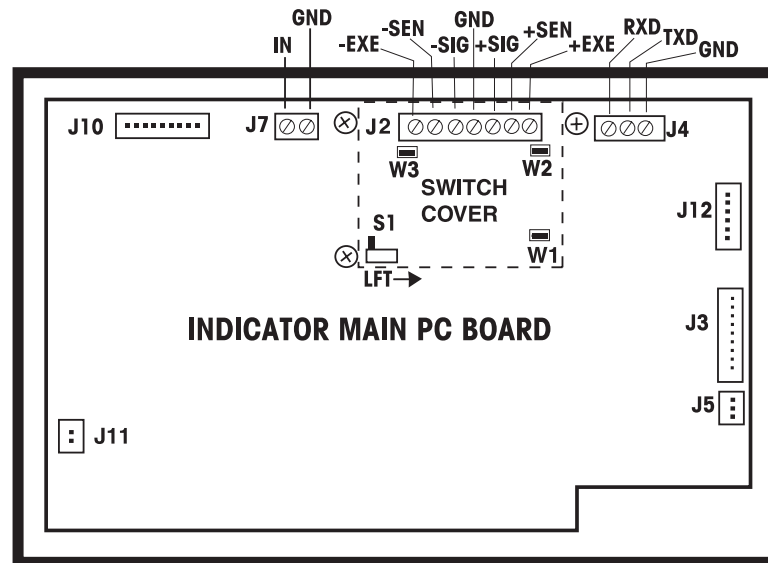

Figure 3-13. Main Printed Circuit Board Connections.
3. See Figure 3-13 Printed Circuit Board Connections and remove the switch cover. Retain the screws and cover.
4. Remove the 3 screws securing the switch cover over Terminal Strip J2. Refer to the manufacture's wiring code of the load cell cable and connect the wires to Terminal Strip J2 according to the proper signal name. See Figure 3-13. Tighten all terminal screws securely.
5. When connecting a 2 mv/v load cell: Jumper W1 is to be left in place shorting the two pins. See Figure 3-13.